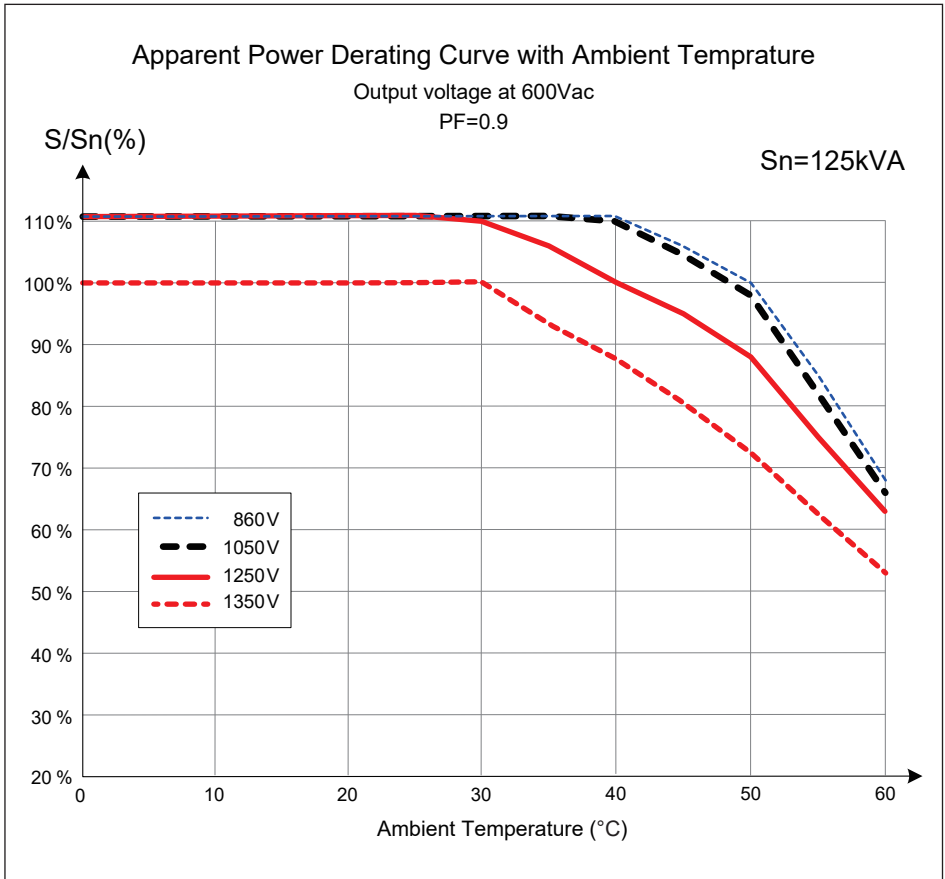

Figure 7-5: Apparent Power Derating Curve with Ambient Temperature (PF=0.9)
- Apparent power could be 110% with ambient temperature is under 40°C. Derating curve with PF=0.9 is shown in **Figure 7-5**.